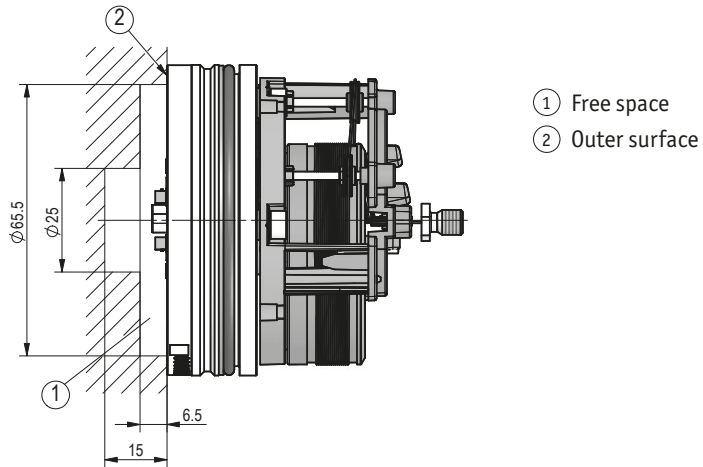

Fig. 3: Mounting free space
- ▶ Observe free space (see Fig. 3). Draw-wire encoder may only be supported on the aluminium outer surface.
1. Plug the cable (1) without flange enclosures on the SGH25. When installing, the cable (1) (e.g. KV1H) should be directed to the cable outlet from the bottom part of the cylinder.
2. Carefully press the SGH25 with greased sealing ring (3) into the the bottom part of the cylinder. Make care that the plug insert (4) and the cable won't be pinched, by pulling out the plug insert trough the plug outlet on the bottom part of the cylinder. Join the plug insert with the flange enclosures incl. greased O-ring and screw it 4x at the intended position. The axial fixing can be done with a securing bolt screw (5) as shown in fig. 3. Tighten the threaded pin slightly (approx. 0.5Nm) and then turn back again approx. 0.5 turns. The threaded pin must be sealed depending on the ambient conditions.